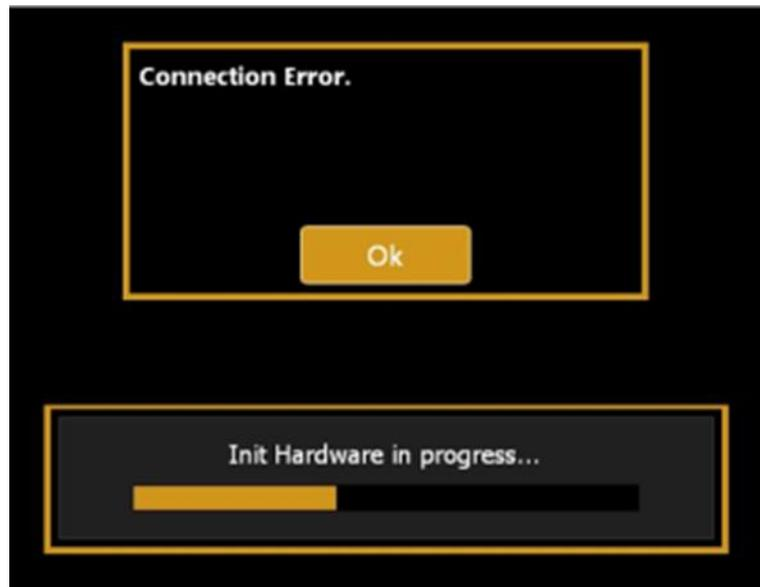

Fig. 73
- If you see the message shown in Fig. 73, please switch off your MYOPIA EXPERT 700 and turn it on again. Your MYOPIA EXPERT 700 should now work fine.